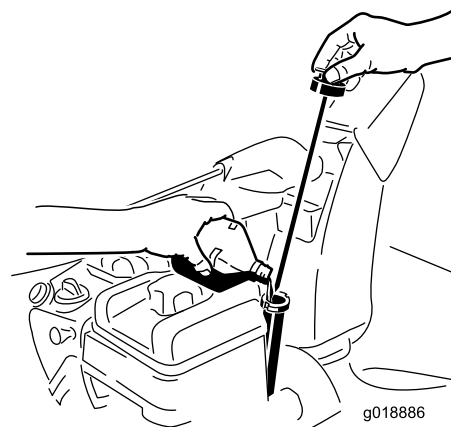

Figure 13
- Remove the dipstick and **slowly** pour oil into the oil fill tube to raise the oil level to the Full mark on the dipstick. **Do not overfill** (Figure 13). Refer to Checking the Engine Oil Level in Maintenance.